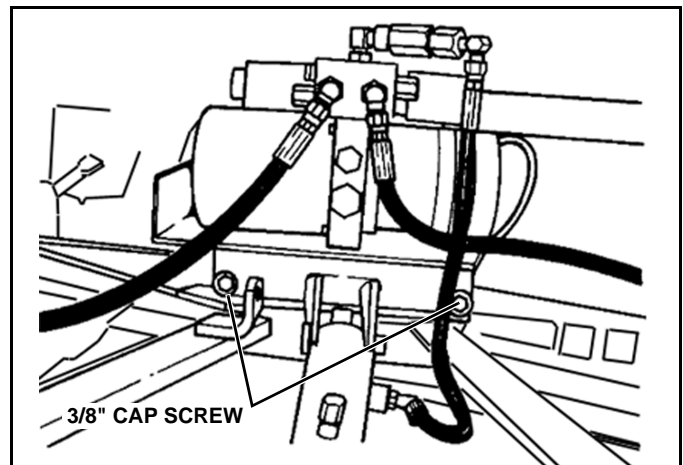

Figure 2-2
- remove the 3/8" Cap Screw and Lock Nut which holds the Lock Plate to the Pump Platform (See Figure 2-2)
4. Remove the two hex head Cap Screws which fasten the pump Platform support to the plow A-Frame. (See Figure 2-2)
Apply LOCKTITE® 242 on the three 3/8" Cap Screws used to secure the Plate to the A-Frame (see steps 3, 4 and Figure 2-2). Torque to 35 lbs-ft.